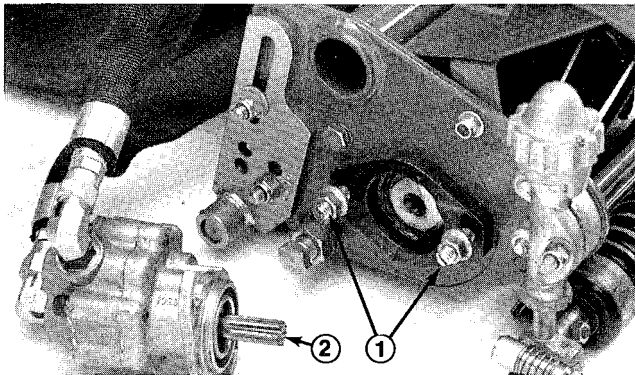

Figure 7
3. Assemble the mount nuts for the reel drive motor to each cutting unit. Leave approximately 1/2 in. of threads exposed on each mount stud (Fig. 7).
4. Remove the protective covers from the cutting units and the reel drive motor shafts. Coat the spline shaft of the motor with clean grease and install the motor by rotating the motor clockwise so the motor flanges clear the studs. Rotate the motor counter-clockwise until the flanges are encircling the studs and tighten the mounting nuts (Fig. 7).